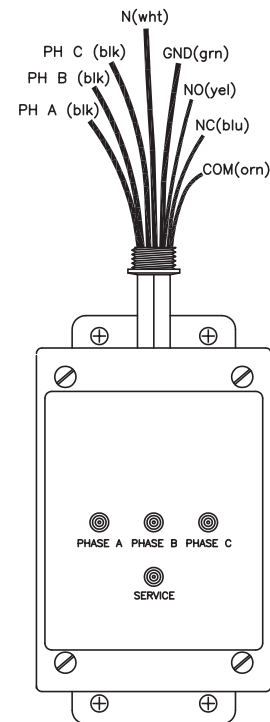

Figure 2: Wiring connections
- Figure 2 is a three-phase wye. A three-phase delta will have no neutral wire. For a three-phase delta high leg, Phase B will be the high leg. A split phase unit will have no Phase C and can be labeled Line 1 and Line 2.